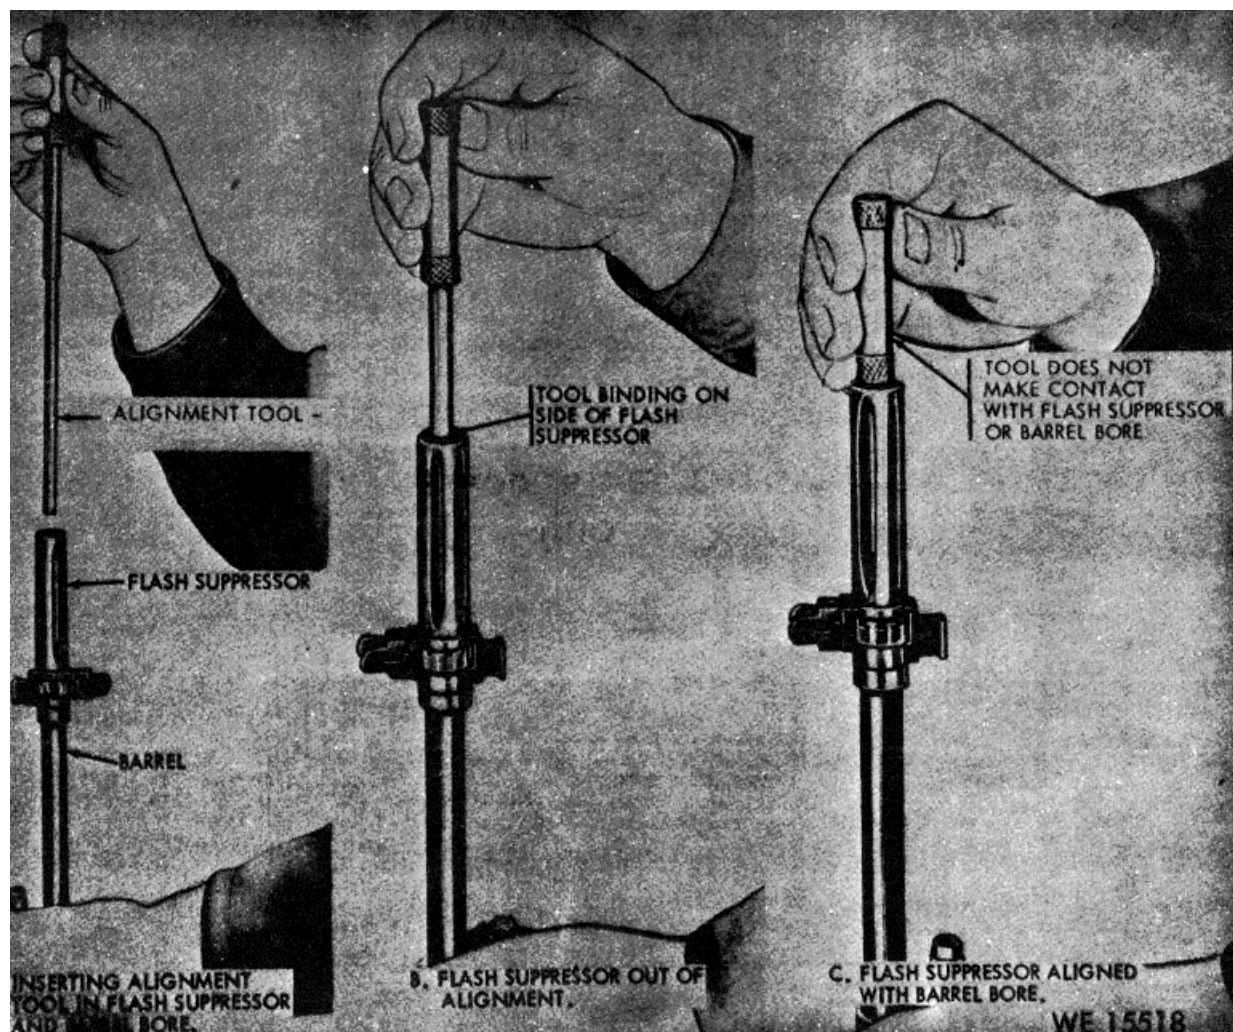

Figure 8-3. Checking alignment of flash suppressor with alignment tool.
c. *Flash Suppressor.* Use alignment tool (fig 8-3) to check alignment of flash suppressor with